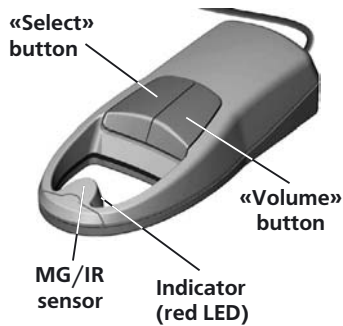

Fig. 4
3. To activate the visualizer (Fig. 4), press and hold any button.
2. To activate the visualizer (Fig. 4), press and hold any button.